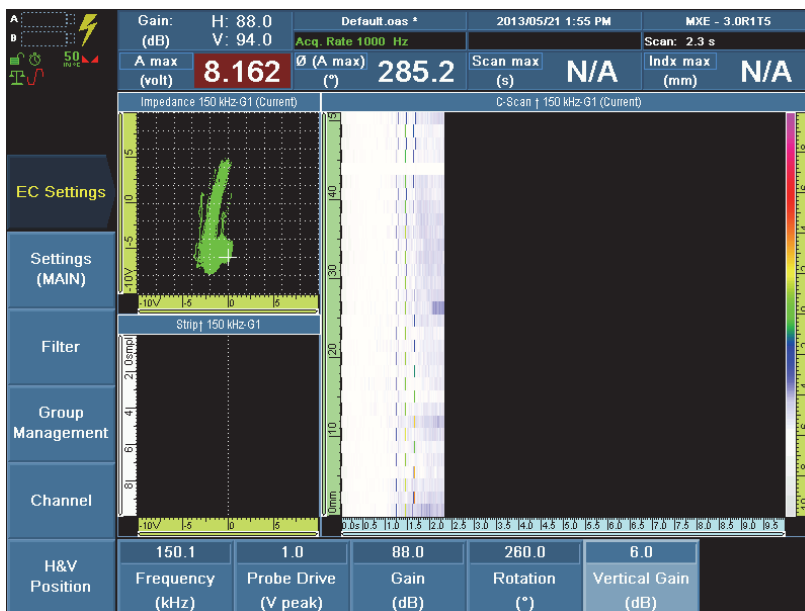

Figure 13-31 Adjusting the vertical gain to maximize the vertical deflection of the signal
9. Set the vertical gain: select **EC Settings > Settings (MAIN) > Vertical Gain (dB)**, adjust the value as needed to help maximize the vertical deflection of the signal, and then press the Accept key to confirm (see Figure 13-31 on page 269).